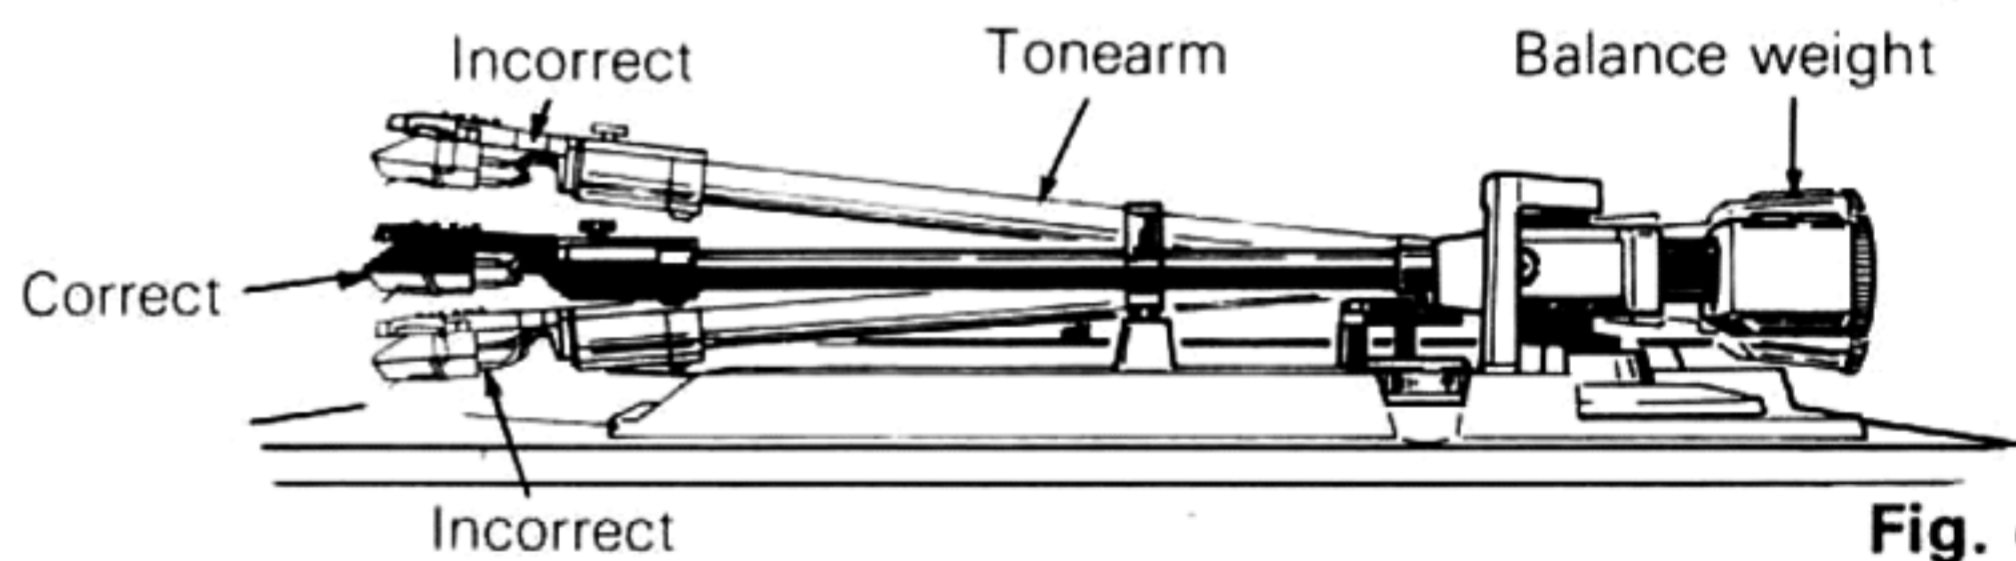

Fig. 4
2. Rotate the balance weight knob until the tonearm is balanced evenly. (See Fig. 4)